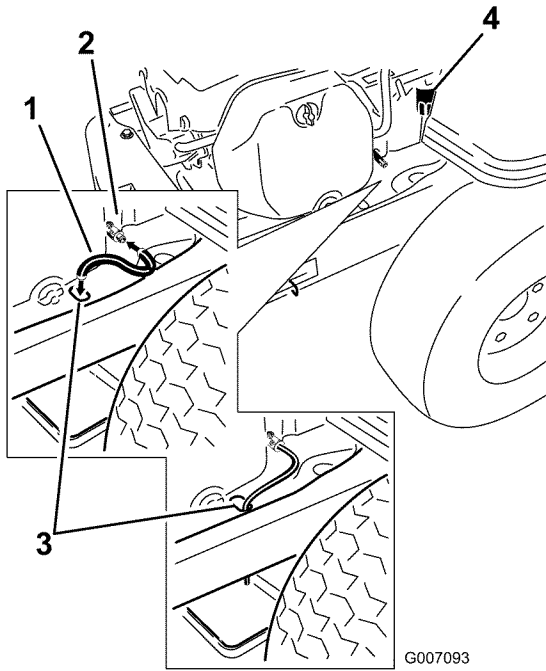

Figure 26
5. Clean the area around the drain valve and on the machine frame. Locate the oil drain hose and slide it over the drain valve (Figure 26).
6. Place the opposite end of the oil drain hose through the drain hole in the frame (Figure 26).